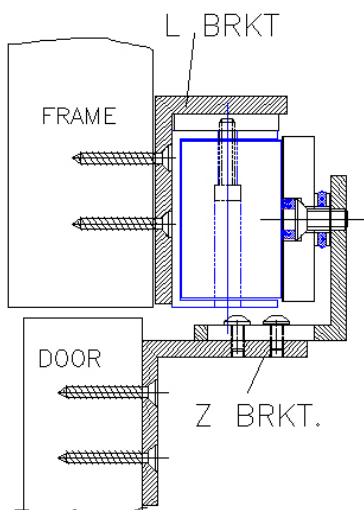

fig. 4 Inward opening doors generally require a **Z & L** bracket :-
- Use Z & L bracket as fig. 4
Typical **Inward** opening door arrangement shown in Fig. 4